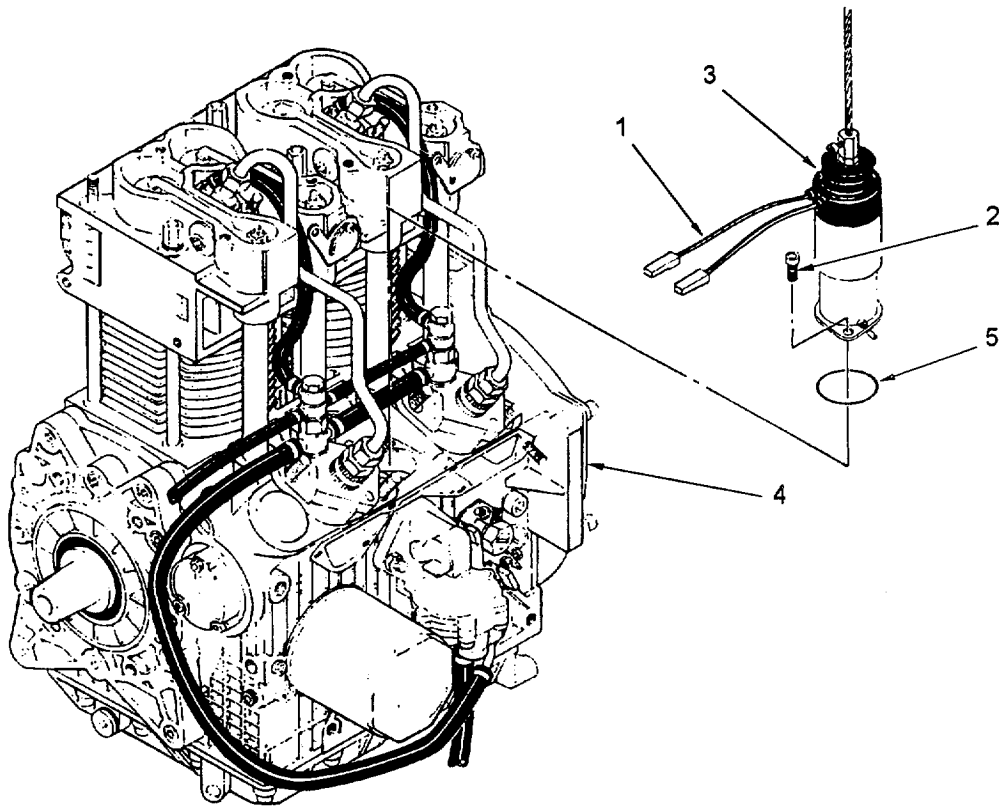

Figure 6-5. Fuel Flow Solenoid Removal
6.3.4 Remove Fuel Flow Solenoid. (Refer to figure 6-5.)